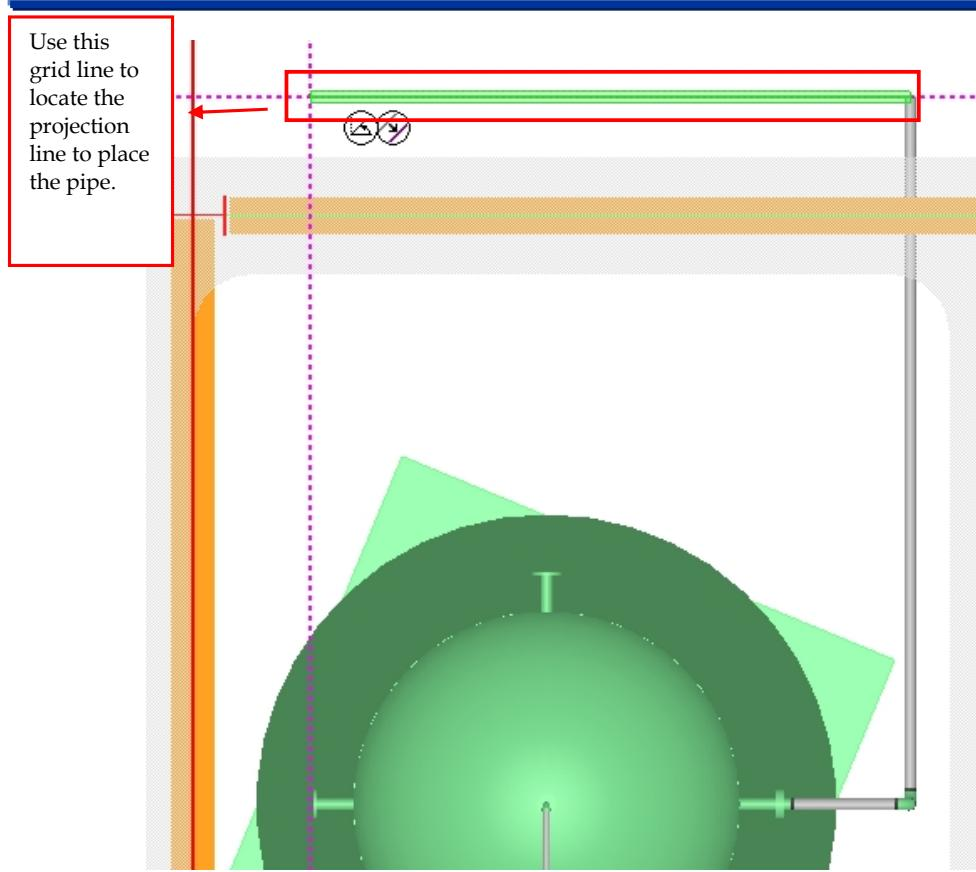

Figure 58: Placed Pipe
17. Move the cursor in the west direction to locate the grid line highlighted in Figure 58 and add it to the SmartSketch list.
18. Move your cursor straight towards the right. The system displays a projection line that indicates a **2 ft** offset from the selected grid line. Then, click in the graphic view to place the pipe, as shown in Figure 58.